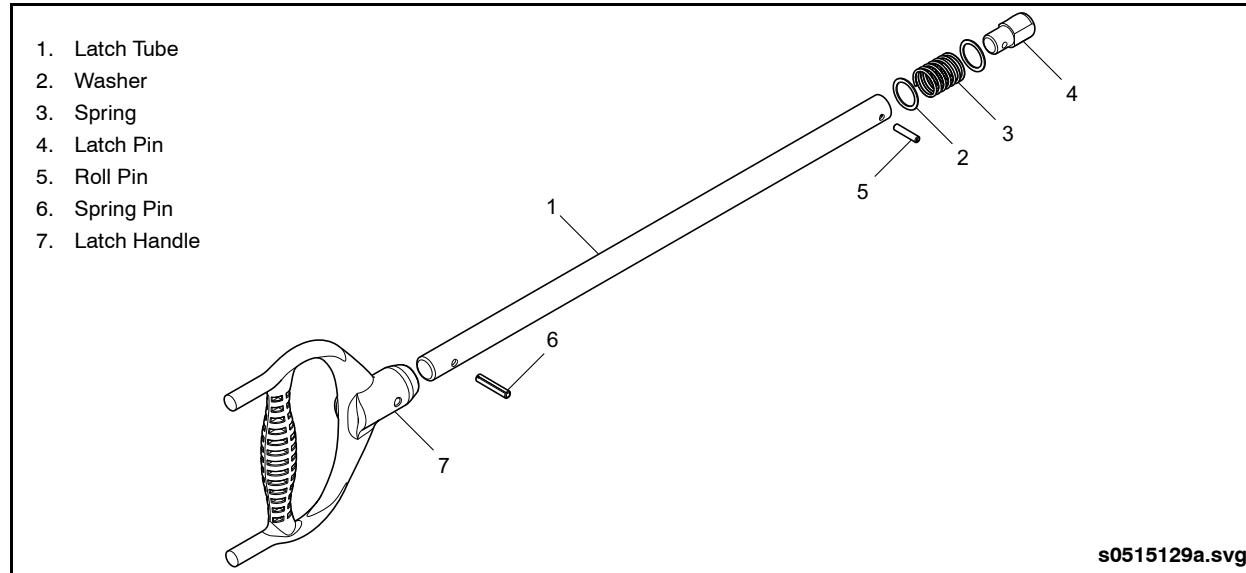

Fig. 13-18: Latch Mechanism Servicing
1. Check the latch handle for damage. Replace if necessary. See "Fig. 13-18: Latch Mechanism Servicing" on page 48.